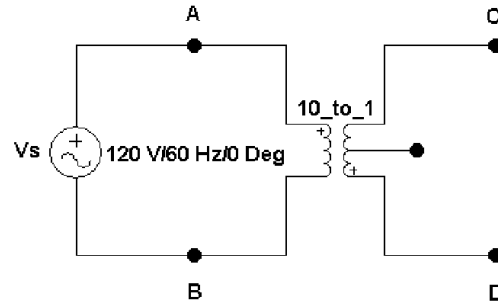
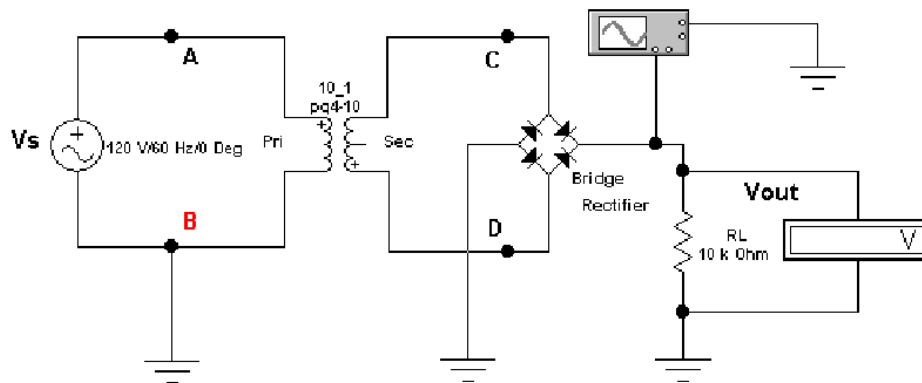

Figure 6.3
Figure 6.4
- Referring to Figure 6.3.
- Referring to Figure 6.4, draw the output waveform V_{out} for a few cycles. Identify the parts of the voltage waveform contributed by the voltages at nodes C and D.
- Connect your circuit as shown in Figure 6.3 using Multisim. Connect channels A and B of the oscilloscope to nodes A and C in the circuit. Simulate the circuit.
- Measure the time period (T) of both waveforms. Verify that frequency (f) is very close to 60Hz.
- Connect your circuit as shown in Figure 6.4.
- Take the peak voltage reading from the oscilloscope. Calculate the value of V_{out} (DC).
- Build the circuit as in Figure 6.3. Use the transformers provided by the lab instructor. Connect channel 1 and channel 2 of the oscilloscope at nodes C and D.